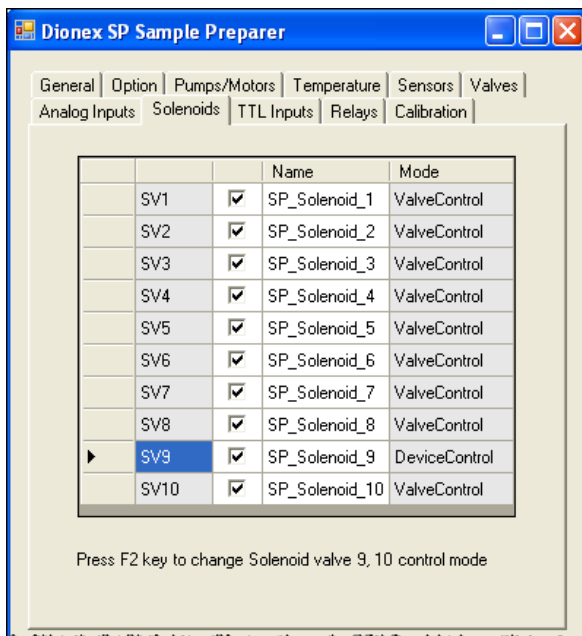

Figure E-11. Chromeleon Server Configuration: Solenoids Page
5. In the **Device Configuration** dialog box, under **Mode**, select **DeviceControl** and click **OK**. The solenoid valve 9 (or 10) connector on the SP electronics board is now assigned to control the peristaltic pump (not a solenoid valve) (see Figure E-11).